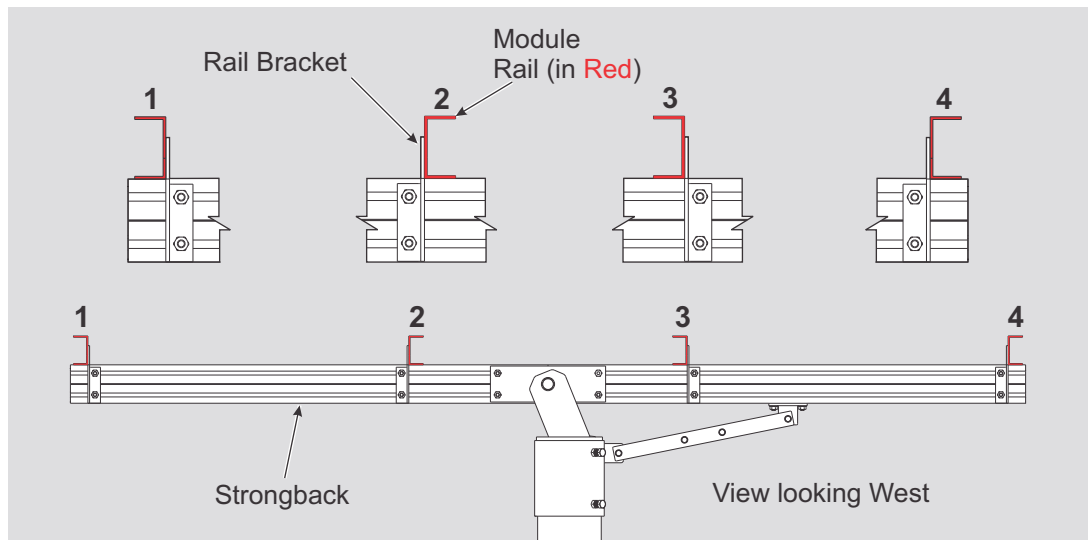
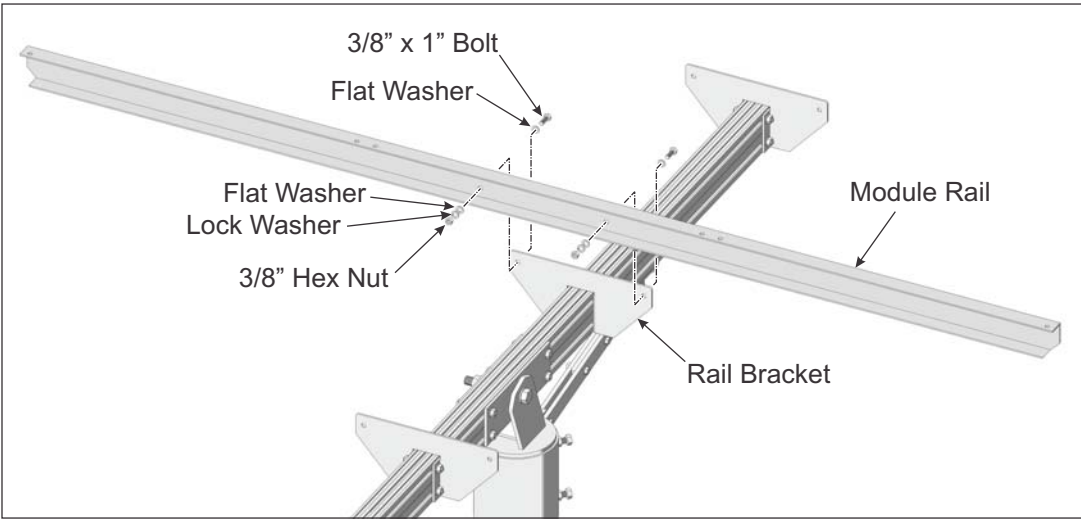

Figure 5-1: Orientation of Module Rails to Rail Brackets
Figure 5-2: Installing Module Rails to Rail Brackets
Module Rail orientation is dependent on location. Follow these instructions carefully for the correct orientation. (See Figure 5-1)
A. Referring to Figure 5-1 for orientation of the Module Rails, position the first section of Module Rail on the Rail Bracket. Align the Module Rail mounting holes with the holes of the Rail Bracket and secure with 3/8" x 1" bolts and hardware. Finger-tighten for now. (See Figure 5-2)
- B. Continue in this manner and install all remaining Module Rails (three more) while following Figure 5-1 for proper orientation of the Rails to the Cross-Bar mounting tabs.